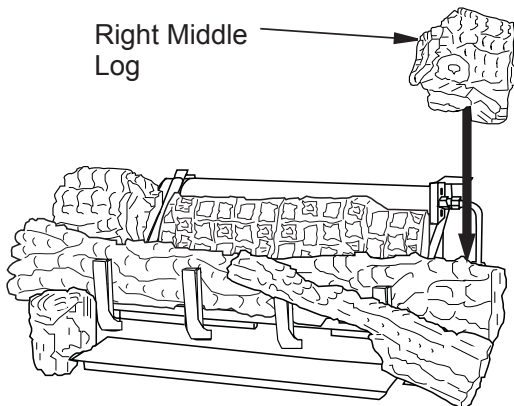

Figure 32 - Installing Right Middle Log
- The right middle log has a groove on the bottom to sit on the chassis and has to sit on the tab on the back of the right front. The right middle log should have a recess area that fits around the ramp log as shown in **Figure 32**.